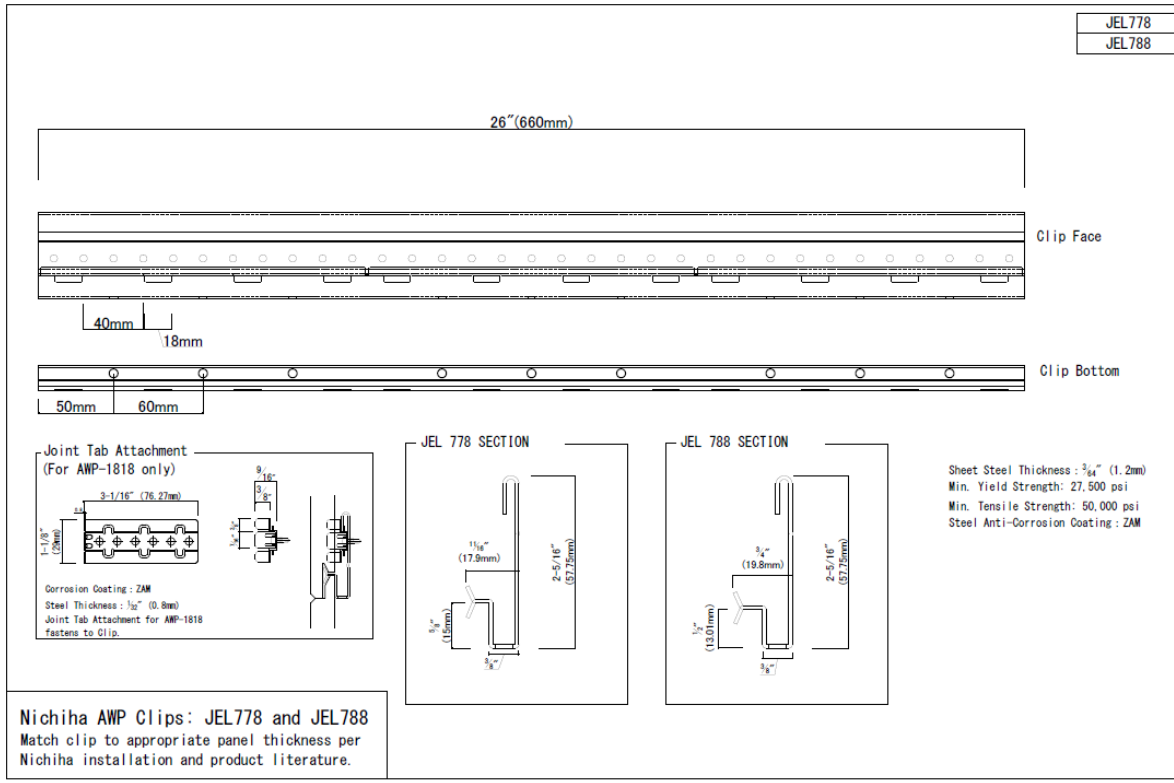
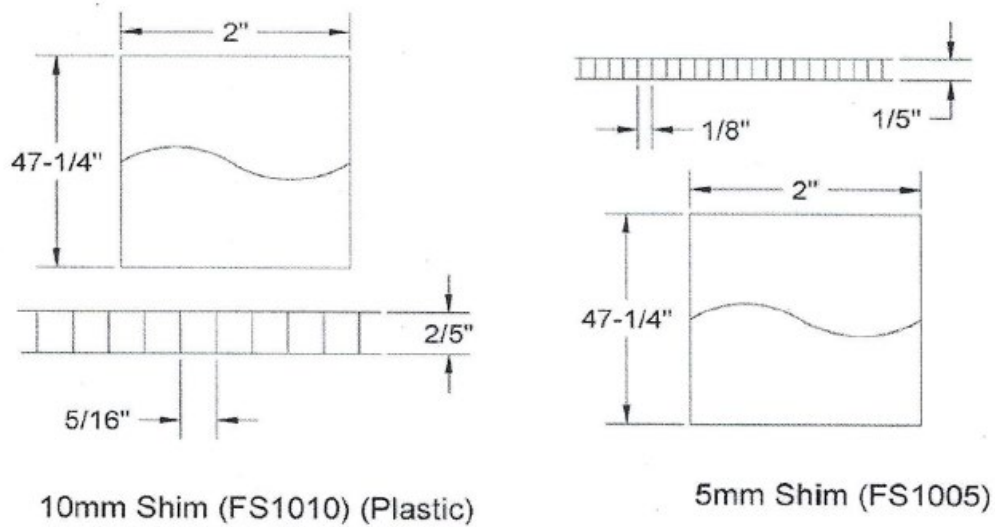

Figure 1 – Panel Clip Details
Figure 4 – Corrugated Shim Details
- Refer to Fig. 1 through Fig. 4 for Nichiha Clip System Details.
- Refer to Figs. 1 through 6 for Nichiha Clip System Details.